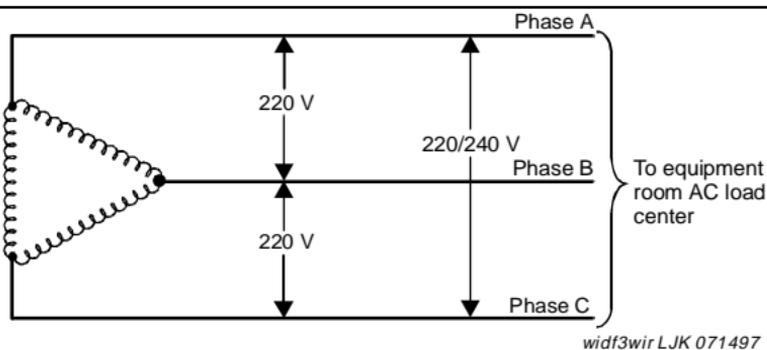

Figure 21. International Delta, 3-Wire, 220 or 240 VAC, 50-Hz Source
- International Delta, 3-wire, 220 or 240 VAC. See Figure 21. This source has 3 wires.